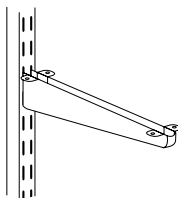

Fig. 2
- 2 Install the Special-purpose Braces into the brackets' gaps (Fig. 2).